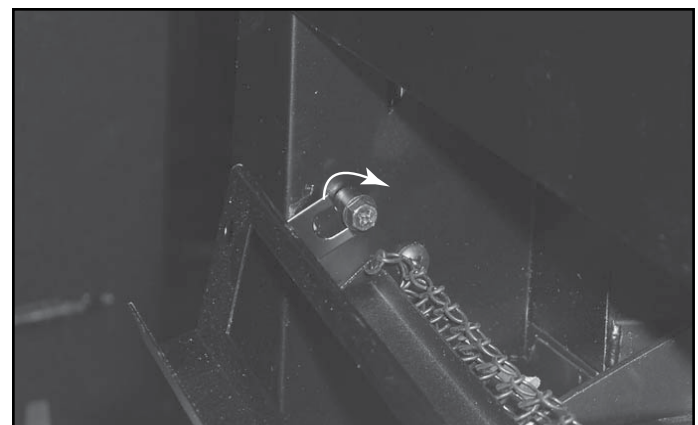

Figure 15.10 Attach Top Grill - Left Side Shown
- Place the tabs of the top grill over the shoulder screws on each end. See Figure 15.10.